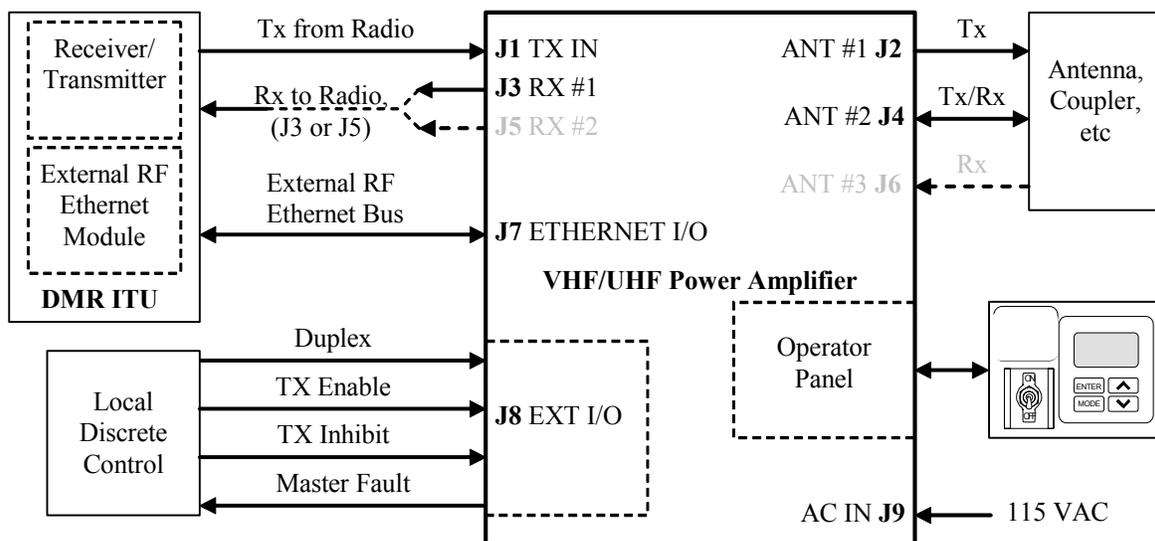

Figure 1 RF Power Amplifier Context Diagram
All DMR VHF/UHF HPAs have a similar architecture (Figure 1). The 100W and 200W HPAs have two receive (RX) paths: J4 to J3, and J6 to J5. The 100WA and 100WB HPAs have a single RX path (J4 to J3). The HPAs can be remotely controlled through an Ethernet port (J7), locally controlled through a discrete signal port (J8), or operator-controlled through a keypad and display located on the HPA front panel.